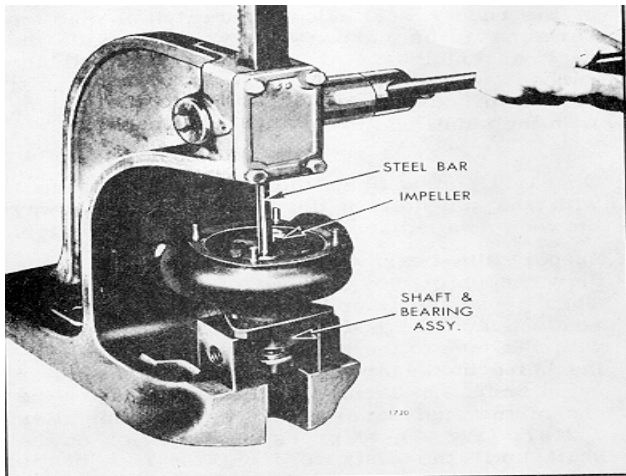

Fig. 4 - Pressing Water Pump Shaft from Impeller
2. Support the pump on its mounting flange in an arbor press as shown in Fig. 4. Place a short rod on the end of the shaft and press the shaft and bearing assembly from the impeller, seal